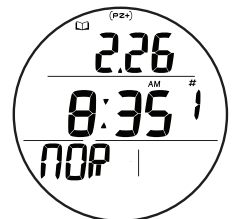

Fig. 42 - LOG PREVIEW (Deco during dive)
**Log Preview**, information includes (Fig. 42):